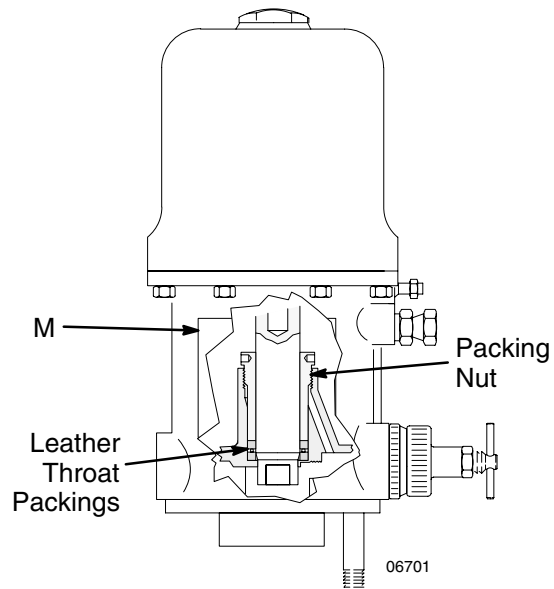

Fig. 3
To check, first **relieve the pressure**. Then, remove the identification plate (M) from the motor. Using a spanner wrench or a 0.22 in (5.6 mm) diameter rod, adjust the nut. Reinstall the identification plate before operating the pump. See Fig. 3.